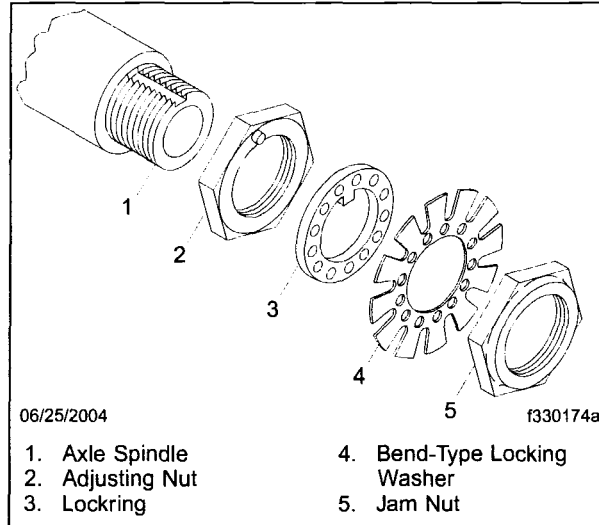

Fig. 2, Axle With Jam Nut and Lockring
5. Remove the jam nut, lock washer, and lockring. See Fig. 2.
8. Install the wheel-bearing adjusting nut. See **Fig. 2**. Finger-tighten the nut. Adjust the bearings.
8.4 Install the locking device (bend-type locking washer and a lockring) and the jam nut. See Fig. 2.